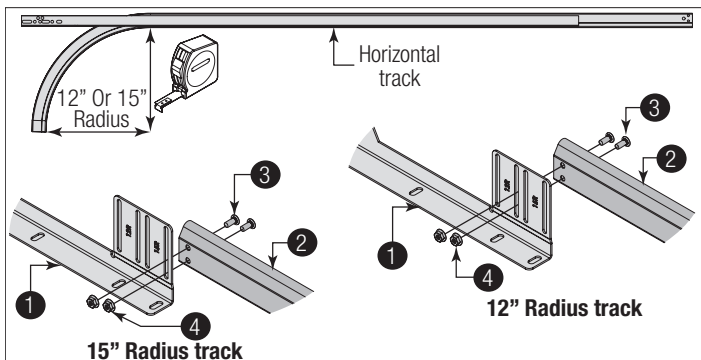
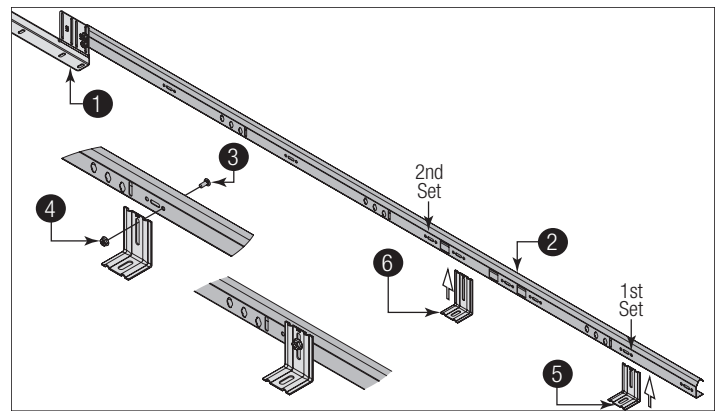

Figure 8, Left Side Shown
Figure 9, Left Side Shown
See Figure 8 and Figure 9 for the following steps.
**IMPORTANT:** In Figure 8, observe the slot location in reference to the 12" or 15" radius.